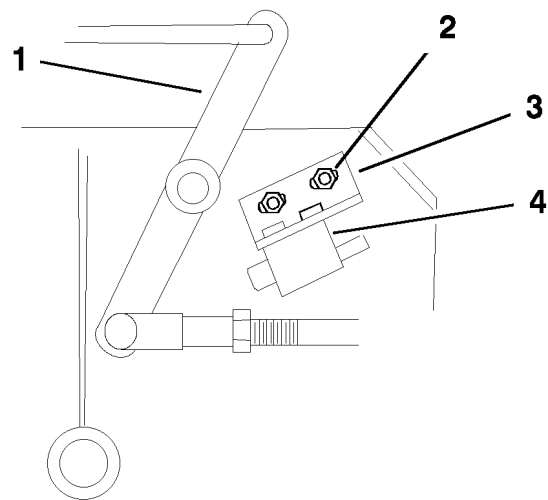

Figure 53
4. If needed, adjust the blade safety switch by loosening the bolts holding the switch bracket (Figure 53).
Note: Make sure the bellcrank does not touch the switch body or damage to the switch could occur (Figure 53). Tighten the switch mounting bracket.